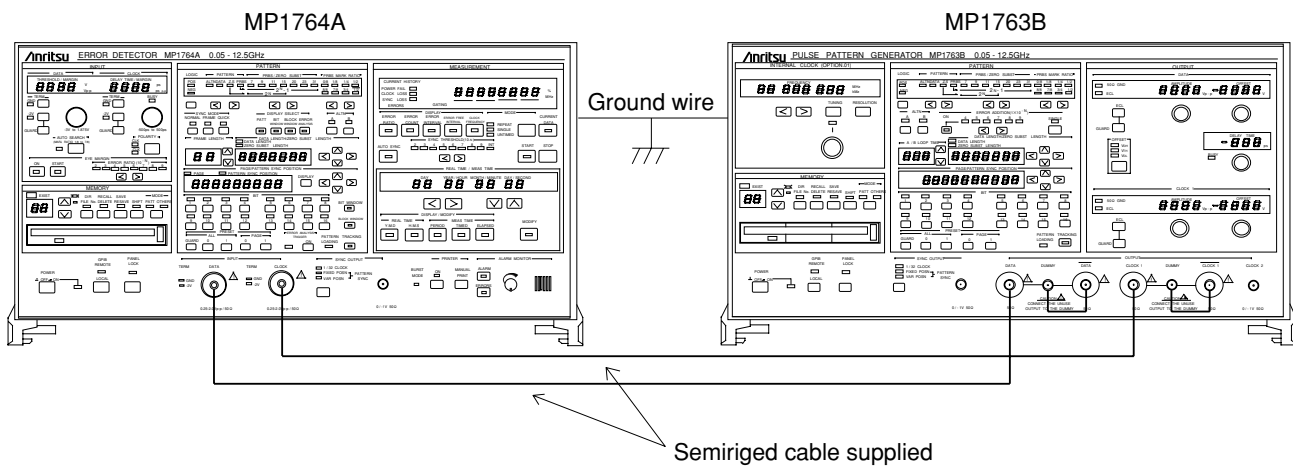

Fig. 7-1 MP1763B and MP1764A Setup
(a) Set up the equipment as shown in Fig. 7-1.
(2) Setup
The setup method is the same as Paragraph 7.3.1(2) and is shown in Fig. 7-1.
(3) Procedure